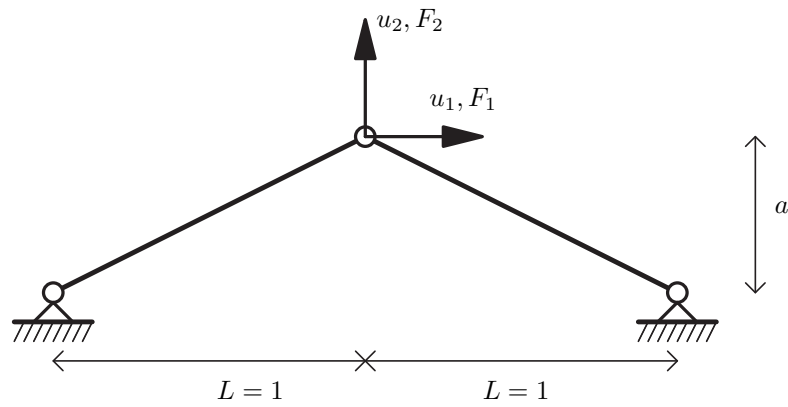

Figure 3: Shallow truss
2. **Potential energy for a shallow truss structure** The potential energy for the shallow truss structure shown in Figure 3 is given as,